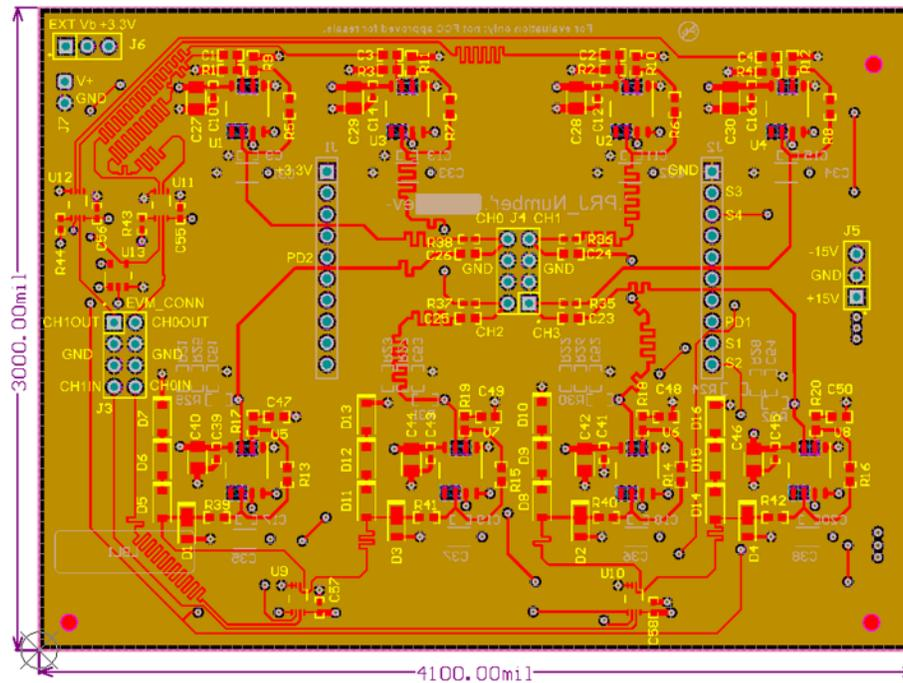

Figure 25. Match Trace Lengths
- Match trace lengths (Figure 25):